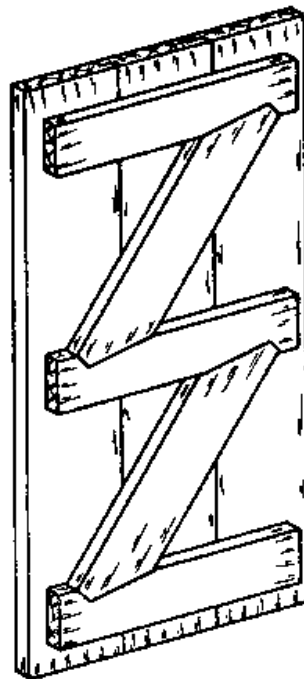

Fig. 2
- Ledged, braced and battened doors (Fig. 2)